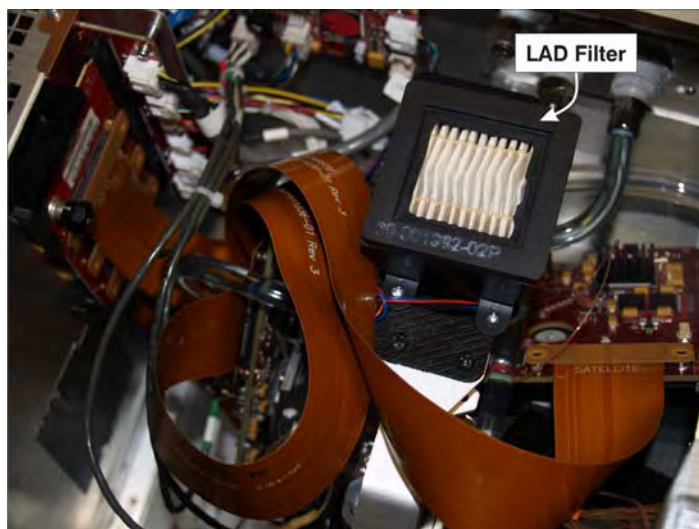

Figure 5-14 LAD Filter
3. Pull the LAD filter out **(Figure 5-14)**.